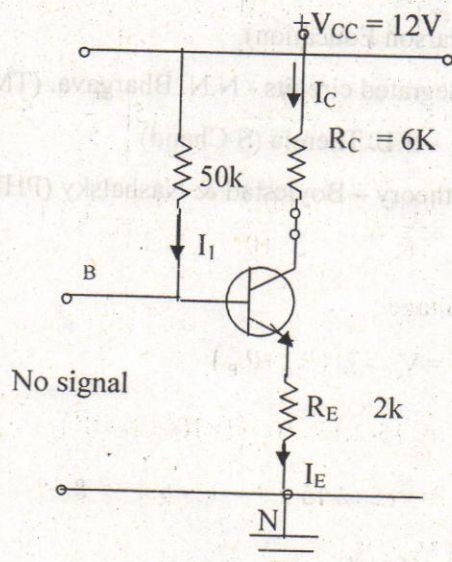

Fig.5.13 Self bias circuit
(1) In the circuit of Fig.5.13 with no signal,